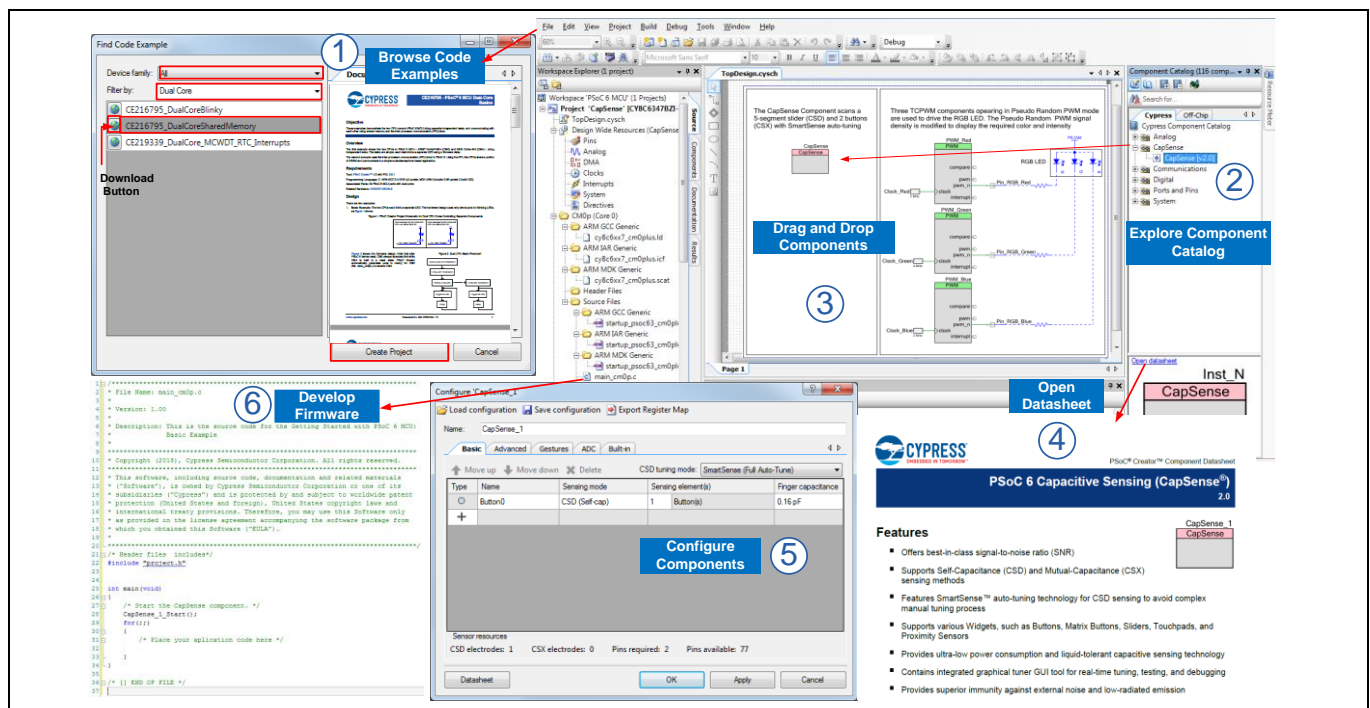

Figure 1 PSoC™ Creator features
- Browse the collection of code examples from the **File > Code Example** menu, as **Figure 1** shows